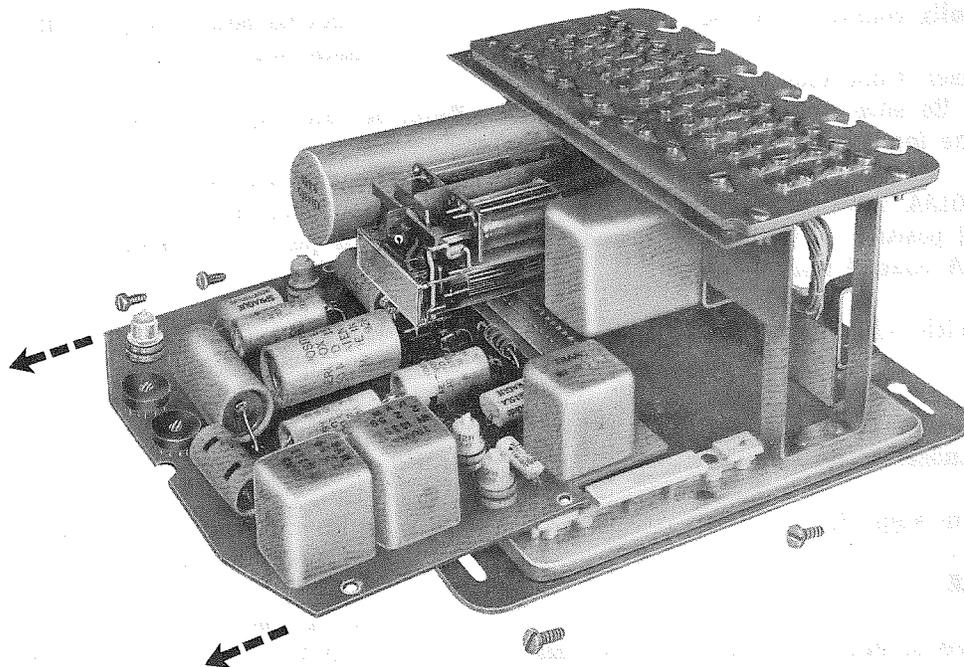

Fig. 5—Wiring Board Assembly Removal
3.05 To replace a defective 51A control unit wiring board assembly, remove four mounting screws and pull board away from jack connector (Fig. 5).